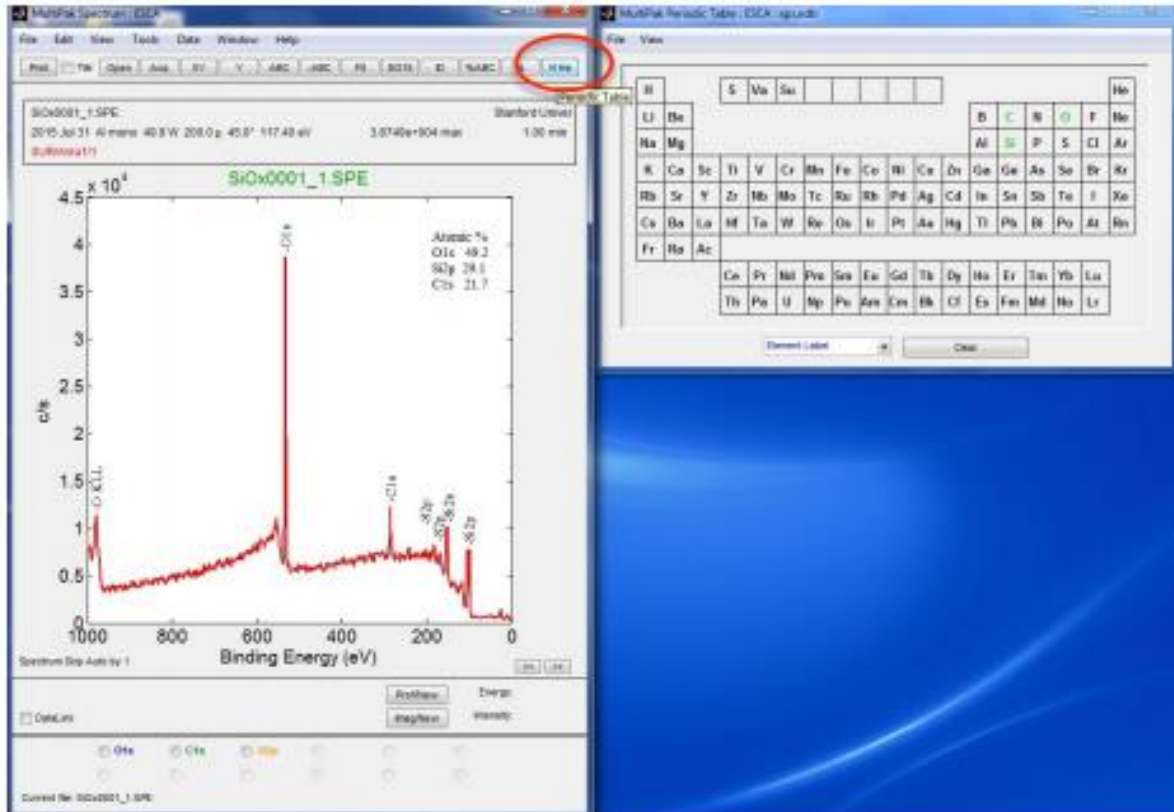

FIG 5: Press H He (12) to open the Periodic Table.
4. The identified peaks will also be shown in the Periodic Table window (**FIG 5**). Elements can be added or removed from the spectra and/or atomic percent calculation by clicking on those elements in the Periodic Table.